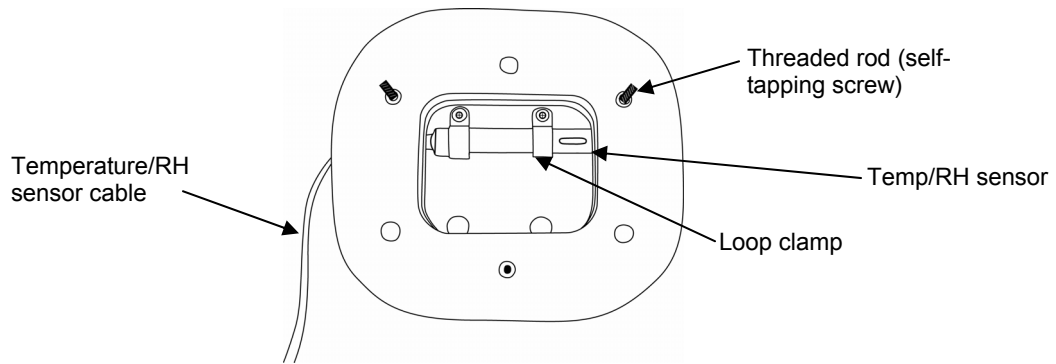
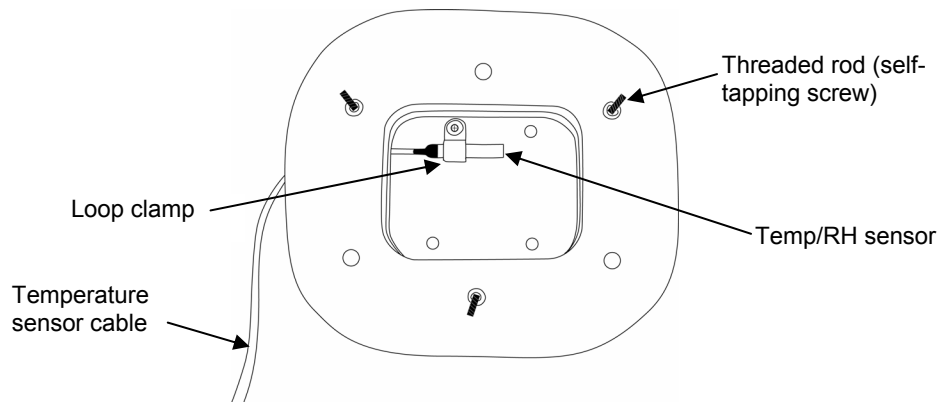
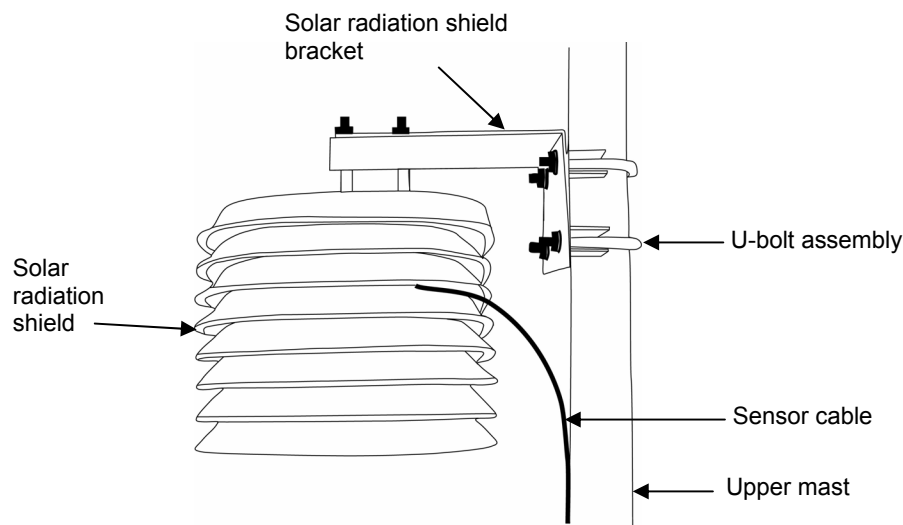

Figure 22: Temperature/RH sensor inside solar radiation shield
Figure 23: Temperature sensor inside solar radiation shield
Figure 24: Solar radiation shield attachment
1. **To install the temperature/RH sensor into the solar radiation shield:** Remove the bottom two shield plates by removing the three wing nuts. Install the temperature/RH sensor using the two black loop clamps, two washers, and two self-tapping screws (see Figure 22). Be careful not to block the RH sensor openings. Feed the cable out through the third and fourth shield plates (see Figure 24). Replace the bottom two shield plates.
**To install the temperature sensor into the solar radiation shield:** Remove the bottom two shield plates by removing the three wing nuts. Install the temperature sensor using the small black loop clamp, washer, and screw (see Figure 23). Feed the cable out through the third and fourth shield plates (see Figure 24). Replace the bottom two shield plates.
2. Mount the white solar radiation shield assembly onto the upper mast using the two U-bolts provided (see Figure 24).